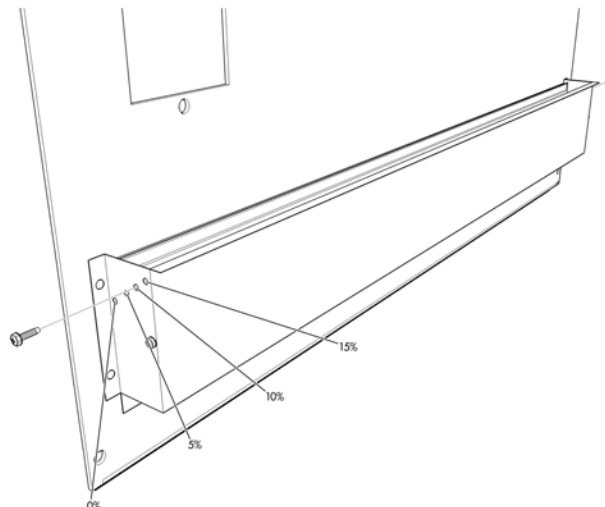

Figure 4. Fresh Air Hood Damper, Models 1024-1072
3. Refer to Figure 4. Attach the bottom support bracket to the wall using appropriate 3/8" diameter hardware.